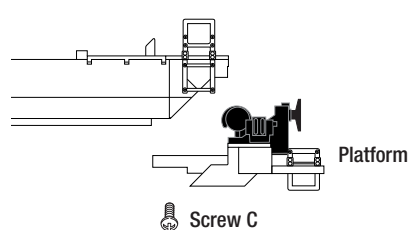

Figure 4b. Platform removal
- Remove the Phillips head screw (labeled "C" in the parts list) from the bottom of the brakewheel platform on the second Maxi-Stack. See figure 4b.